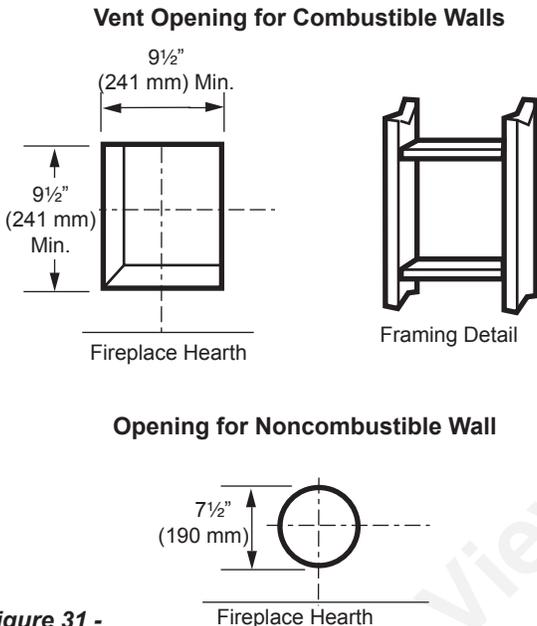

Figure 31 -
Combustible Exterior Walls: Cut a 9½"H x 9½"W square hole through the exterior wall frame. *Figure 31*
2. The center of the hole should line up with the center line of the horizontal rigid vent pipe end. Allow ¼" minimum rise per foot. *Figure 31*